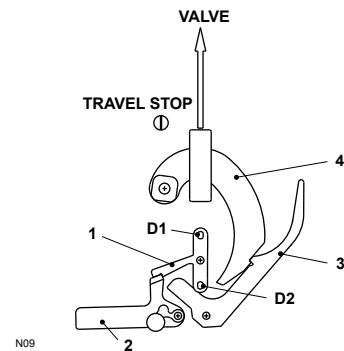

Figure 14. Mechanism Details
- Manual release of slam shut (Figure 14)
- Manually press on the releasing stem pin D1 or D2 (Figure 14, key 1) parallel to the BMS axe
- Disassemble the mechanism box (BM) from the connector by unlocking the yoke